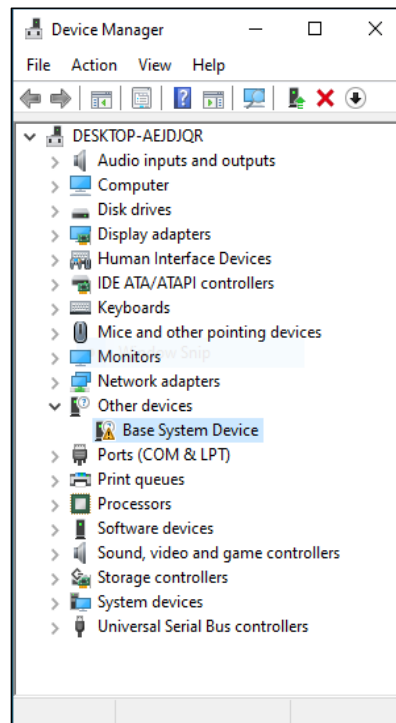

Figure 5.35. Device Manager
1. Open **Device Manager**, which shows the connected PCIe devices, as shown in Figure 5.35.